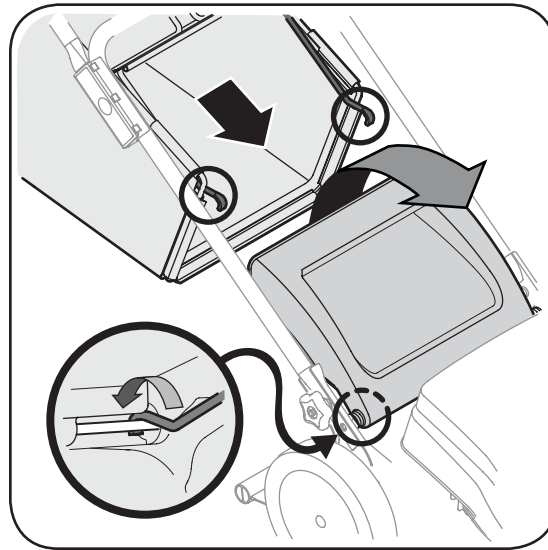

Figure 4-5
- c. Place grass catcher on the pivot rod. Let go of discharge door so that it rests on the grass catcher. See Figure 4-5.